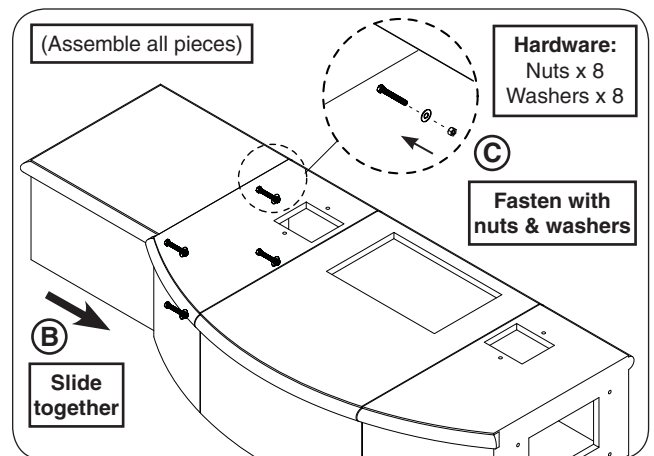

Fig. 16-2 Assemble hearth - slide together & fasten
3. Carefully slide the left outer-piece against the center piece while aligning the pilot holes. Then reach into the center hearth (through access opening), place the washers and nuts, and hand tighten. See Fig. 16-2.